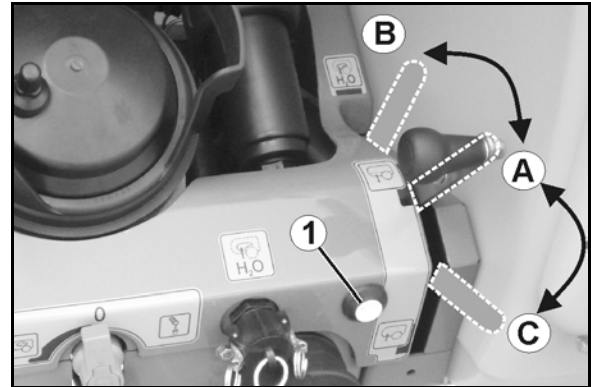

Fig. 86
- Remote-controlled changing from spraying position (Fig. 86/A) to flushing position (Fig. 86/B).
Changeover from filling position (Fig. 86/C) to spraying position (Fig. 86/A) via the control terminal or on the control panel (Fig. 86/1).